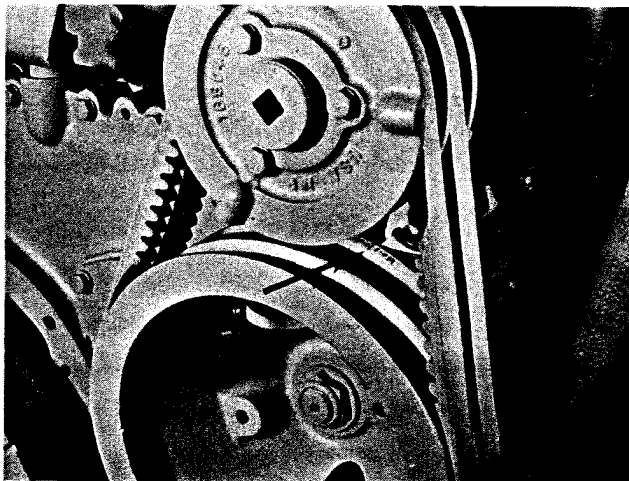

Fig. 2-48, (V41484). Valve set marks
2. Bar engine in direction of rotation until No. 1L-6L VS mark appears. See Fig. 2-48 for location of valve set marks. In this position, both intake and exhaust valves must be closed for cylinder No. 1, on engine left bank. (Remove block from compression release before setting valves.)